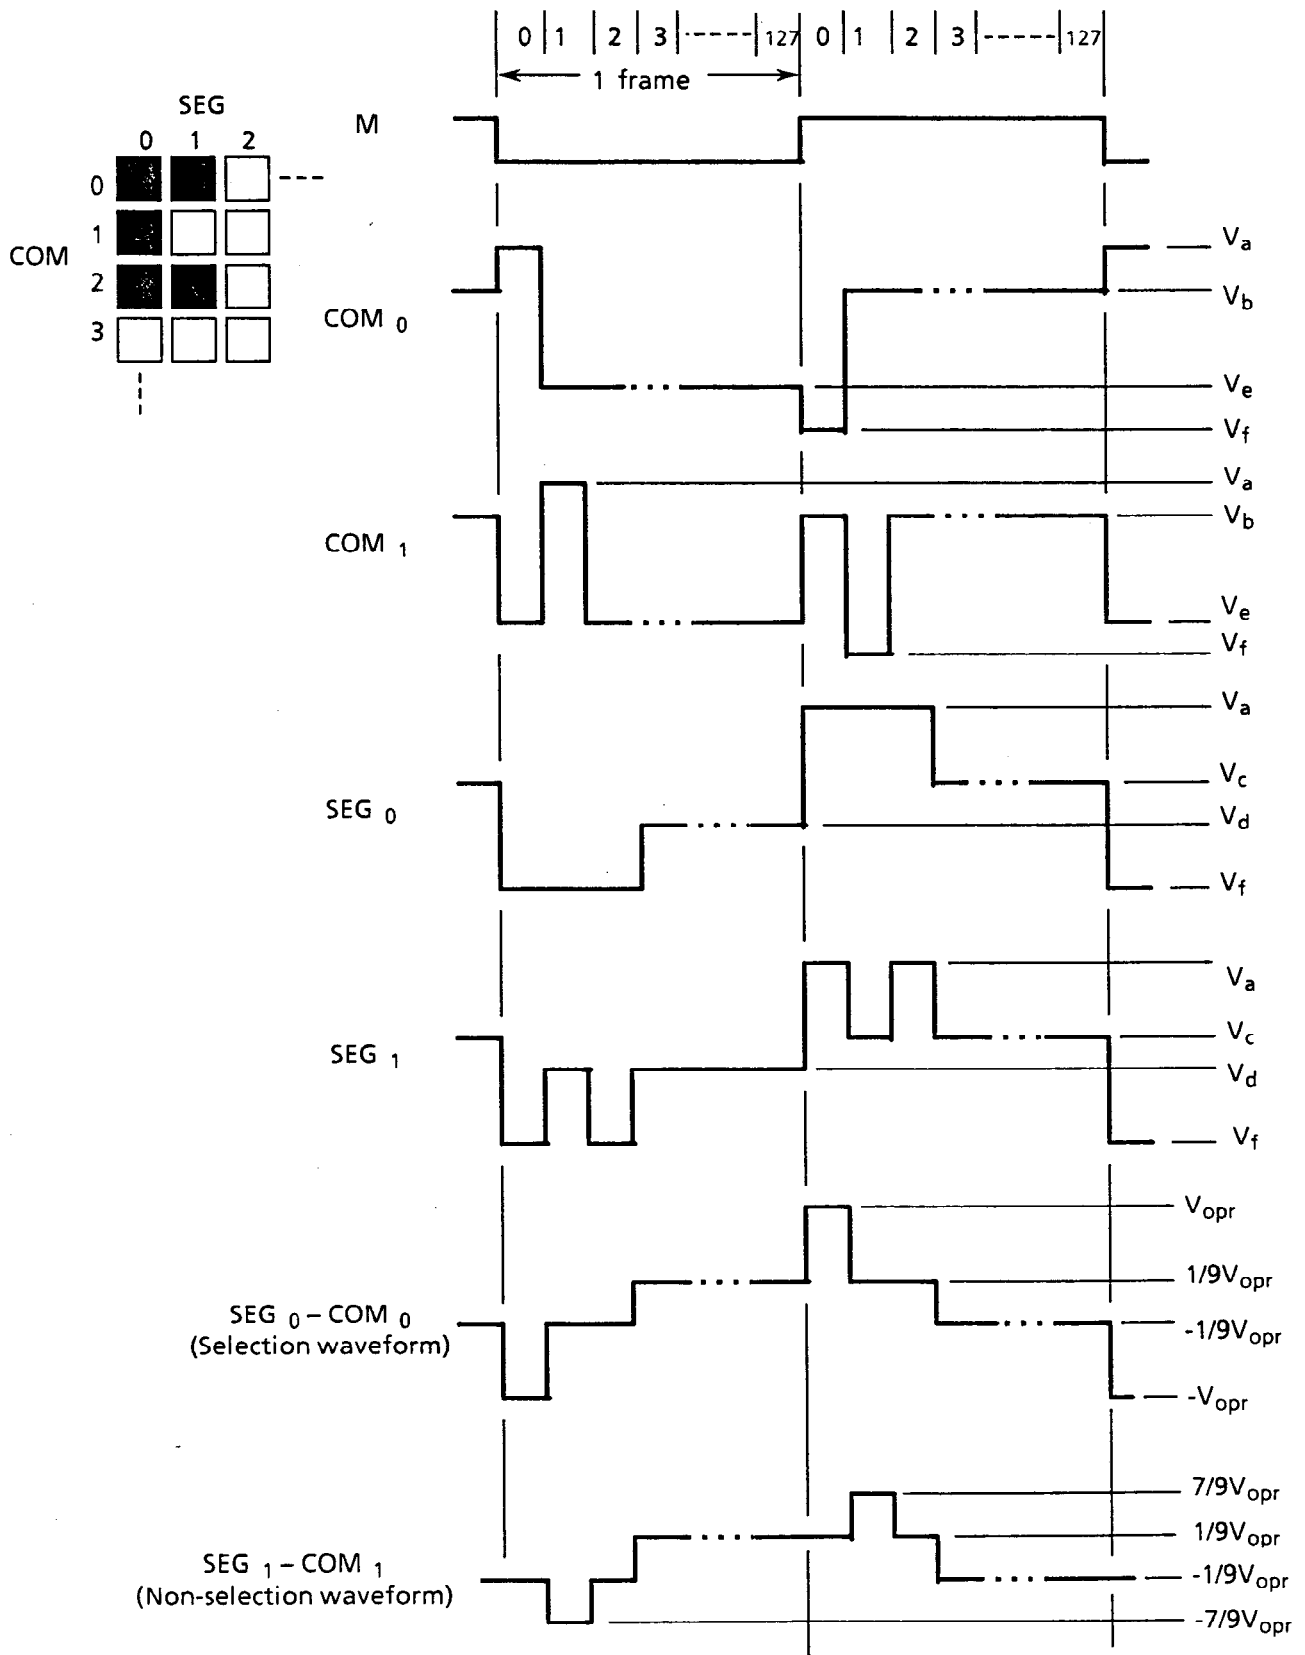

Figure 2 Drive waveform
The drive waveform of the LCD panel is shown in Figure 2 on the next page. Since DC may damage the liquid crystal, the drive waveform polarity is reversed at alternate frames, and AC is applied between two frames. The signal controlling this is the liquid crystal drive waveform AC signal (M). The frame frequency is normally set to about 70 ± 5 Hz to prevent screen flicker.
The G482C has a 1/128 duty cycle, and the common electrodes are selected within a frame by time division from electrode 1 to electrode 128. This is called line sequential scanning. The voltage level of the segment electrodes determines whether the dots at the intersection of the segment electrodes are selected or not, when the common electrode is selected. As shown in Table 1, there are six drive waveform voltage levels, V_a to V_f . The voltage level is determined by the bias value. The voltage between the segment and common electrodes is thus applied to the liquid crystal. The selection waveform for SEG_0-COM_0 and the non-selection waveform for SEG_1-COM_1 are shown in Figure 2. The size of the effective voltage of the waveform determines whether the liquid crystal under the selected dots is in the selection or non-selection state.